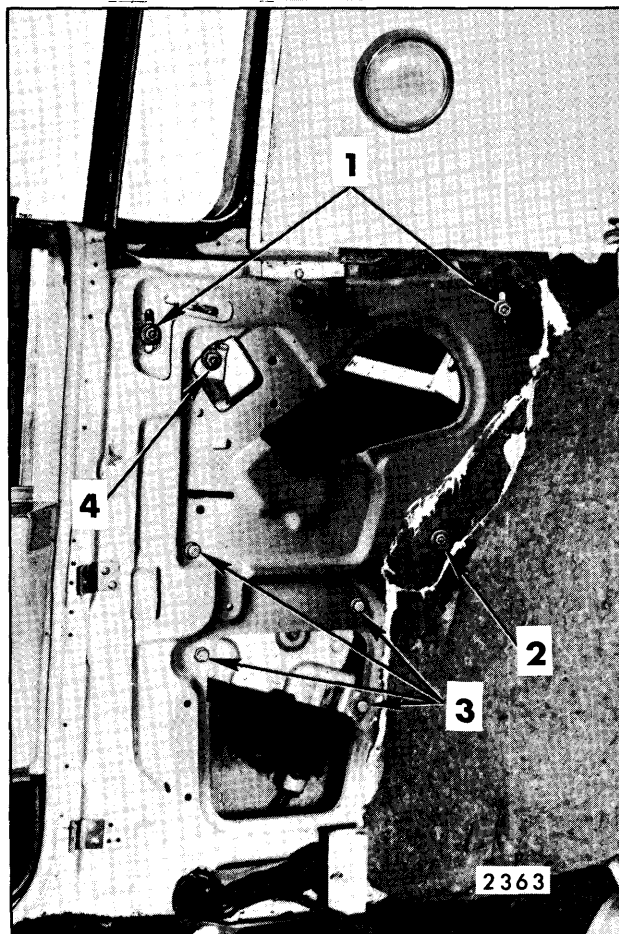

Fig. 7-26—Rear Quarter Hardware - "E-47" Styles
**NOTE:** Major glass adjustment is available at inner panel cam adjusting studs and nuts (see Fig. 7-26). In addition, the glass run channel rear attachment provides in or out and up or down adjustment. Also, a glass lower stop is attached to the rear plate of the glass run channel. This stop is adjustable fore and aft.